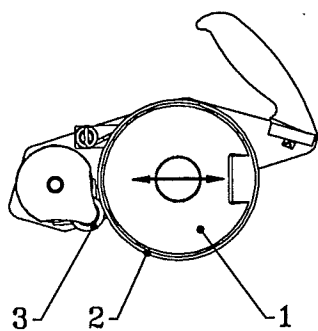

Figure 31 : Adjusting the textroll
7.3.1 Adjusting the textroll (see figure 31)